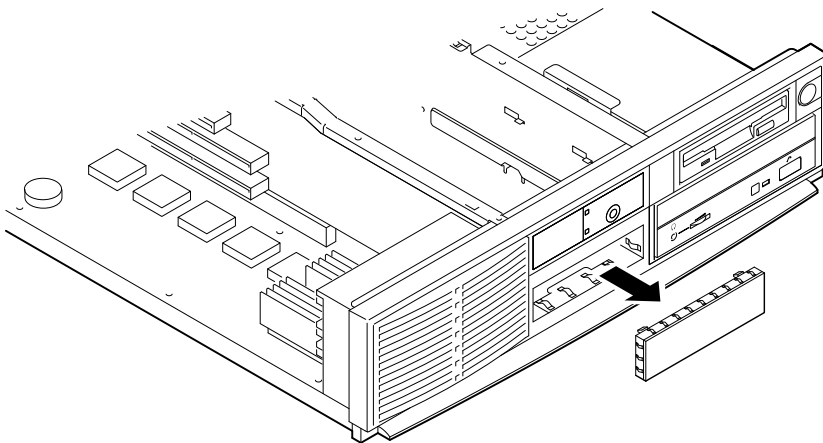

Figure 3-13. Removing Blank Panel
3. If you are installing a removable media drive in the lower position of the drive bracket, gently push the front-panel filler plate from the rear in front of the tape drive position, as Figure 3-13 shows.